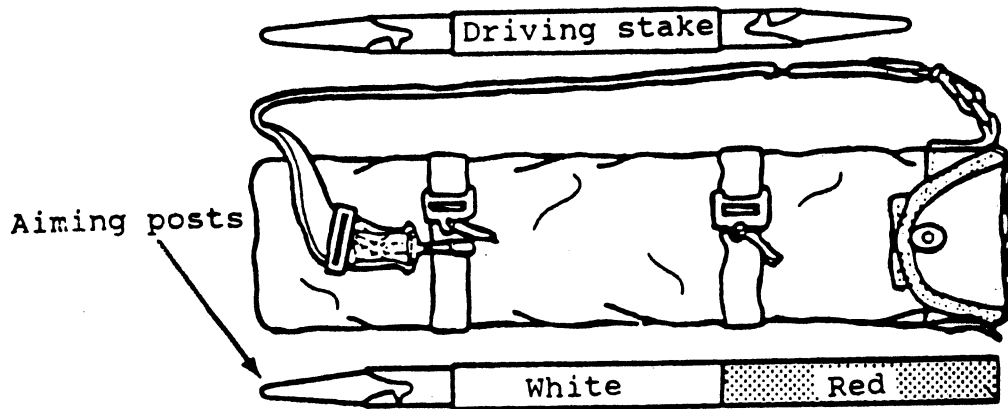

Fig 1-9. Aiming posts and carrying case.
d. Aiming posts (fig 1-9); two aiming post cases each containing eight two foot long sections of aiming posts for a total of sixteen aiming posts sections. Aiming post sections can be joined together to make longer posts when needed due to terrain. Every other case contains a driving stake which is used when driving the aiming posts into the ground.